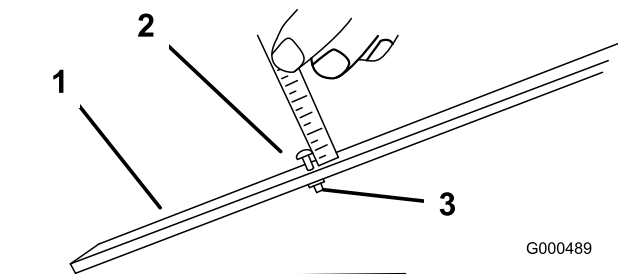

Figure 9
2. Loosen nut on gauge bar (Figure 9) and set adjusting screw to desired height-of-cut. Distance between bottom of screw head and face of bar is height-of-cut.